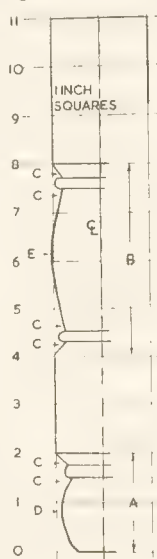

Fig. 4—Shape marked on wood
Use metalworker's callipers, with a spring bow and an adjusting screw. Besides a pair of these, some 'in-and-out' callipers are very useful, indicating at one end the distance spanned by the outside jaws, and at the other end the same distance between two projecting parts. Now, in the drawing, sketch in the sweeps and bulges (see Fig. 4), and we can proceed to transfer the basic dimensions to the wood blank.
Cut another notch at $4\frac{1}{2}$ in. and a third one at $7\frac{1}{2}$ in. (see Fig. 4). All these dimensions are taken from the ground or from the 'foot end' of the leg. The width of the beads is shown as $\frac{1}{2}$ in. Three other notches, defining the thickness of the beads, can now be worked, but these may come a little beyond the $\frac{1}{2}$ in. dimension provided none is taken very deep. All we need is a 'safety line' at present.
Rough off the portions, marked (A) and (B) in Fig. 4, which are to be shaped. Take off no more stuff than is needed to obtain a true cylinder at the widest parts of the design. If this roughing obliterates the chisel notches, deepen them enough to serve as a guide for subsequent work.
of the beads, but leave the outer face of the bead untouched. These recessed points are marked (C,C) in Fig. 4. The $\frac{3}{8}$ in. gouge is the tool to be used.